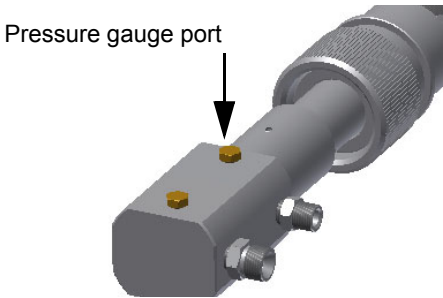

Fig. 11
- 5 Only if necessary, adjust the supply pressure as follows (see related paragraph); insert a pressure gauge into the port shown on Fig. 11 and act on on the pump adjusting screw **VR** (see Fig. 10) as to get the nozzle pressure at 20bar (Monarch or Fluidics nozzles - see page 43-38).